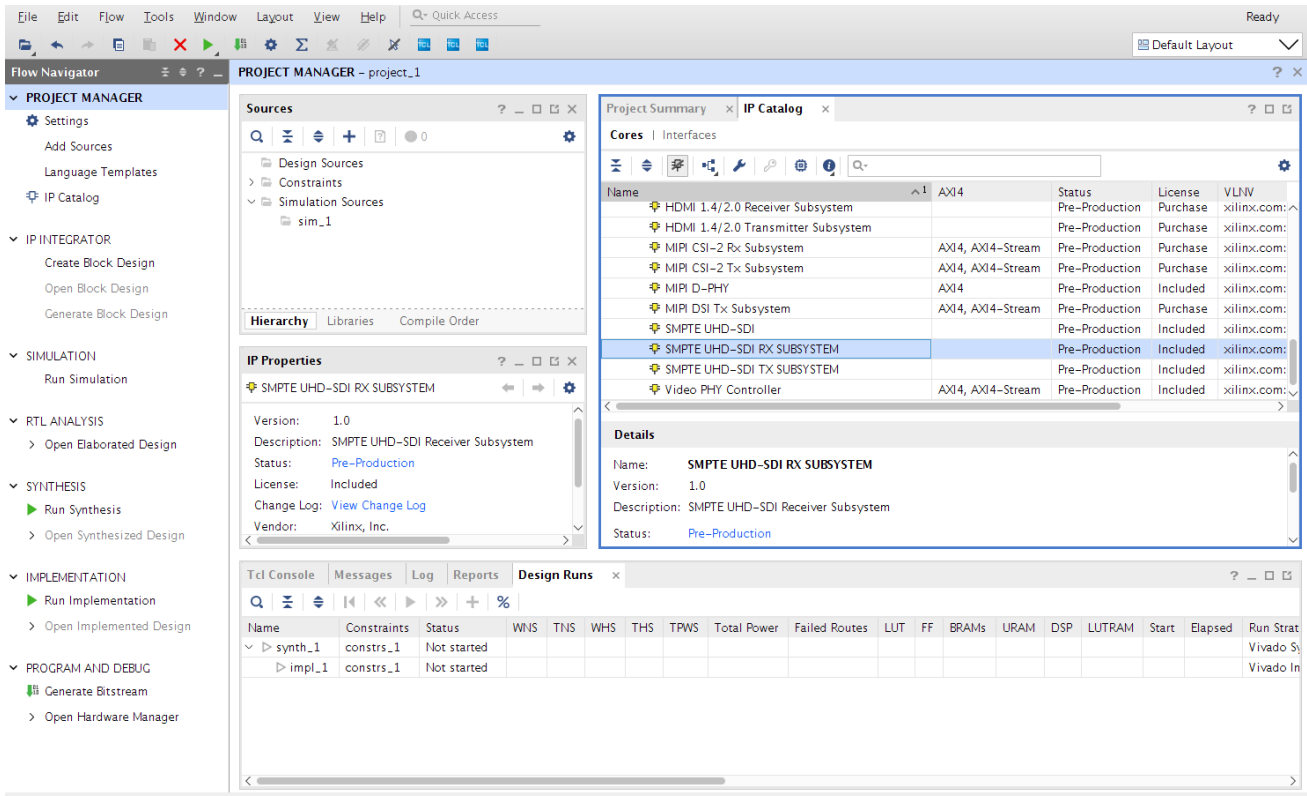

Figure 5-14: Select the SMPTE UHD-SDI RX Subsystem
- Click **IP Catalog** and double-click **SMPTE UHD-SDI RX Subsystem** under Video Connectivity as shown in Figure 5-14.